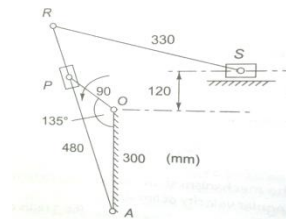

Figure 1
14. The crank OP of a crank and slotted lever mechanism rotates at 100 rpm in the CCW direction as shown in Fig 1. Various lengths of links are OP=90mm, OA=300 mm, AR=480mm and RS=330 mm. the slider moves along an axis perpendicular to AO and is 120 mm from O. determine velocity of the slider when AOP is  $135^\circ$ .